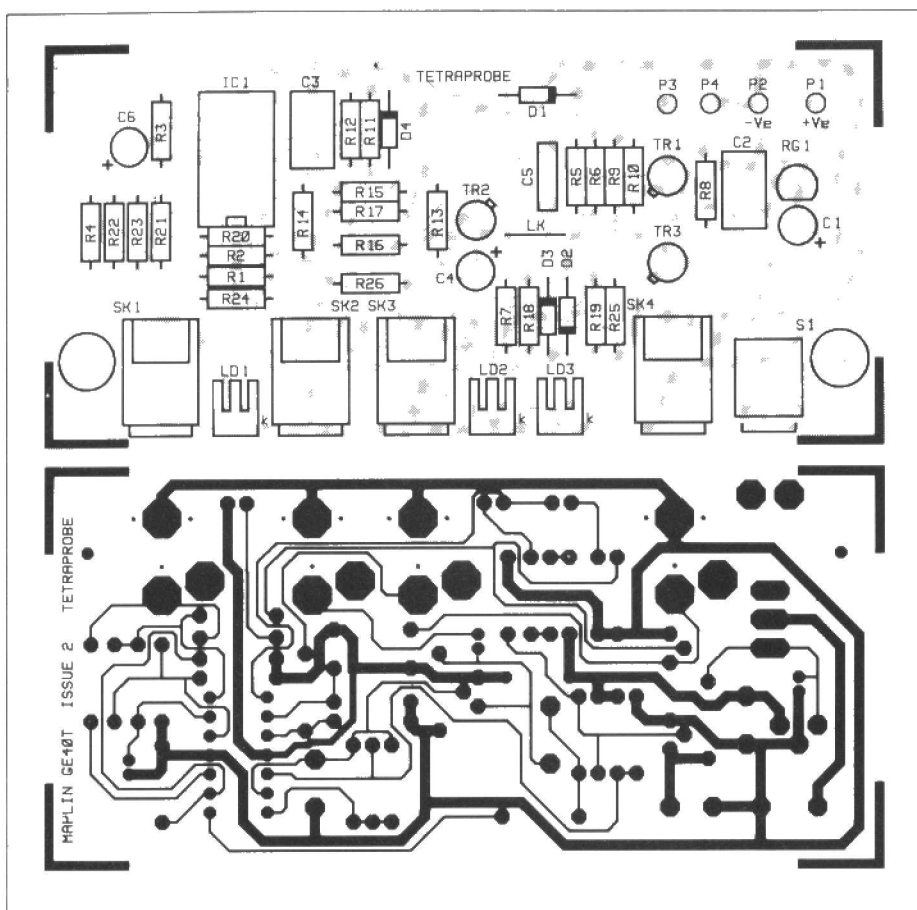

Figure 2. PCB legend and track.
The Tetraprobe is not a complex instrument and there should be no difficulties in its construction. The PCB components are mounted according to Figure 2 and the parts list. There is only 1 link (LK), on the board and this carries the 5V line from RG1 over impenetrable territory.